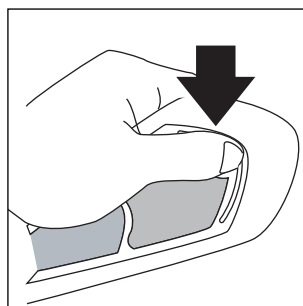

Fig. 18
- 3) Press the tab at the top of the frame (Fig. 18).